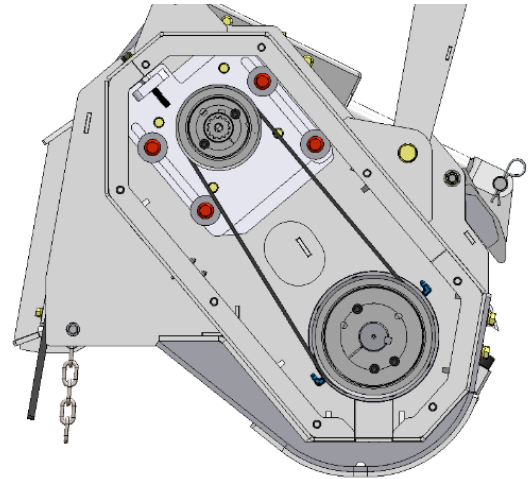

Figure 15
2. Loosen four (4) bolts on the hydraulic motor sliding plate. See Figure 15.